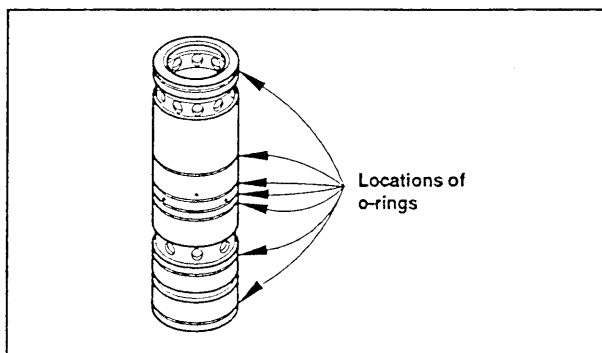

Figure 8.
3. Apply grease and install o-rings (22) into the appropriate grooves on the piston sleeve. See figure 8 and the parts drawing for correct orientation.